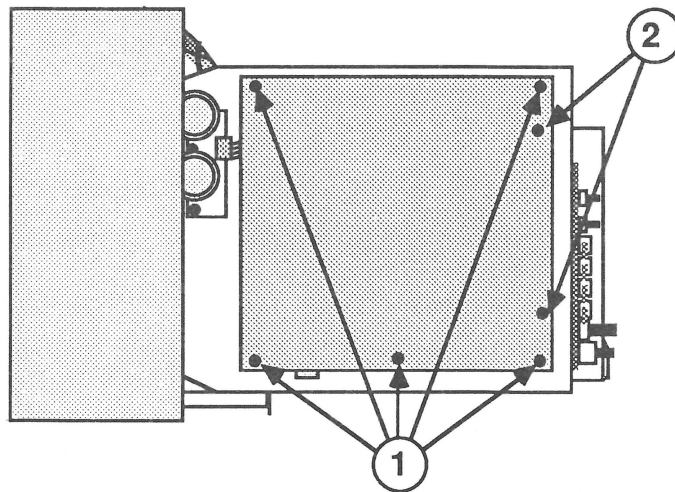

FIGURE 14
5. Remove the five screws (Figure 14, #1) that secure main logic board "D" to the metal chassis frame.
6. Using needlenose pliers, compress the sides of the plastic clamps (Figure 14, #2) one at a time and pull the board off the clamps. (In some monitors, there is only one clamp.)